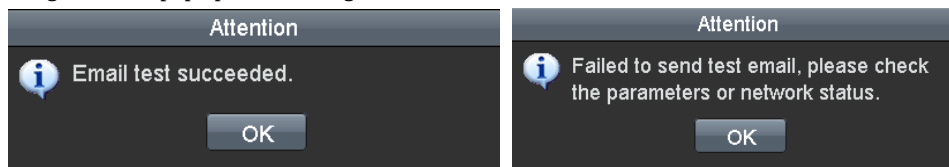

Figure 9. 24 Email Testing Attention
7. You can click **Test** to test whether your Email settings work. The corresponding Attention message box will pop up. Refer to Figure 9. 24.